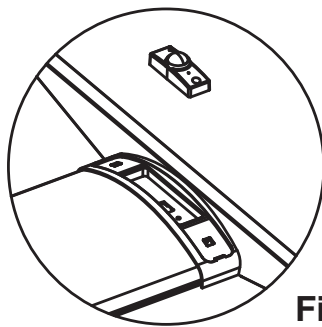

Fig. 3
3. If needed, install the side plates between the fixture and T-grid, there are two tabs to allow for placing the side brackets into the slot of the end plates. (See **Fig. 3**)
3. Install the air return side plates between the fixture and T-grid, there are two tabs to allow for placing the side brackets into the slot of the end plates. (See Fig. 3)
2. Plug the c-Max™ into the USB-C receptacle via the USB connection (see Fig. 3).